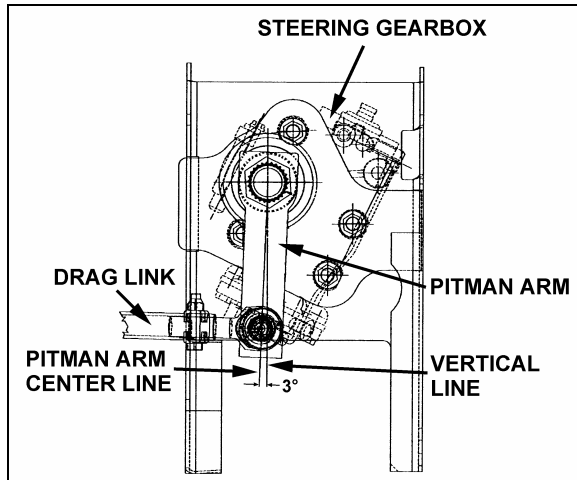

FIGURE 14: PITMAN ARM ADJUSTMENT 14052
2. Using a protractor, check the angle of the pitman arm (refer to Fig. 14 for details).